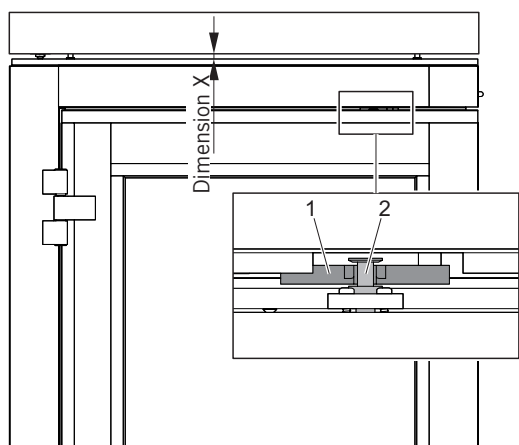

Fig. 26: Adjusting the holding fixture
- ▶ Turn the pressure plate upward if the holding fixture (Fig. 26/1) for the mushroom head (Fig. 26/2) extends beyond the mushroom head or if the dimension X > 20 mm.
- ▶ Turn the pressure plate downward if the holding fixture (Fig. 26/1) for the mushroom head (Fig. 26/2) is located before the recess in the profile or if the dimension X < 20 mm.